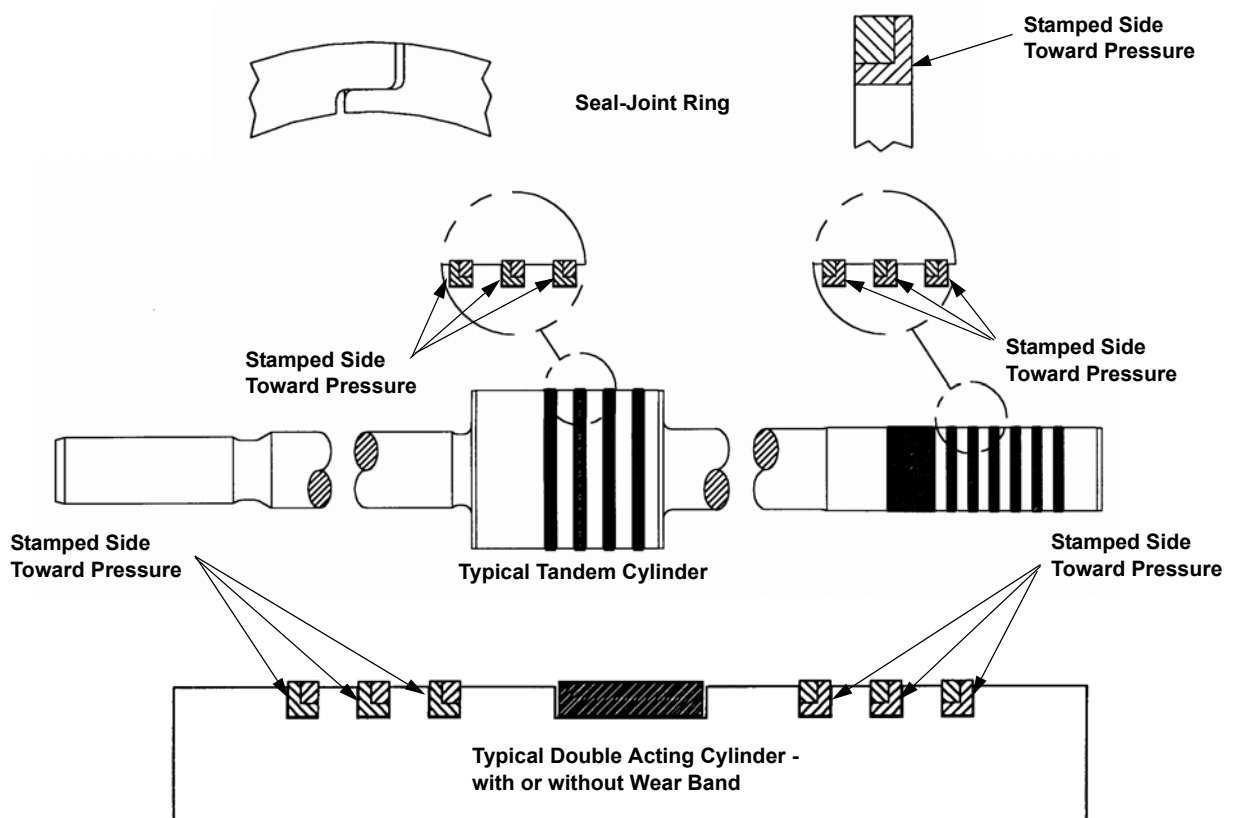
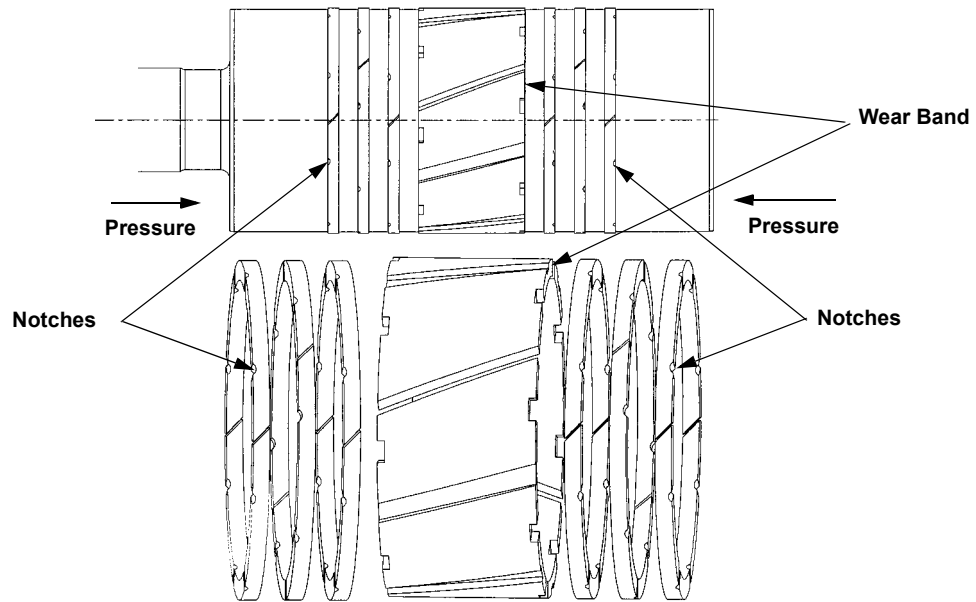

FIGURE 5-27: SEAL-JOINT PISTON RING INSTALLATION ORIENTATION
FIGURE 5-28: HIGH-PRESSURE FACE-CUT PISTON RING ORIENTATION
Most JGE:H:K:T cylinders use one-piece angle cut filled Teflon piston rings. High-pressure cylinders use two-piece thermoplastic rings, reference Figure 5-28: on Page 5-43.
Most JGK and JGT pistons use one, one-piece angle cut filled Teflon wear band. High-pressure cylinders use two-piece thermoplastic wear bands, reference Figure 5-28: on Page 5-43.
2. For seal-joint piston rings, be sure stamped side is toward pressure, reference Figure 5-27: on Page 5-43. For two-piece high-pressure face cut piston rings, be sure notches face toward the pressure (notches face away from wear band), reference Figure 5-28: on Page 5-43.